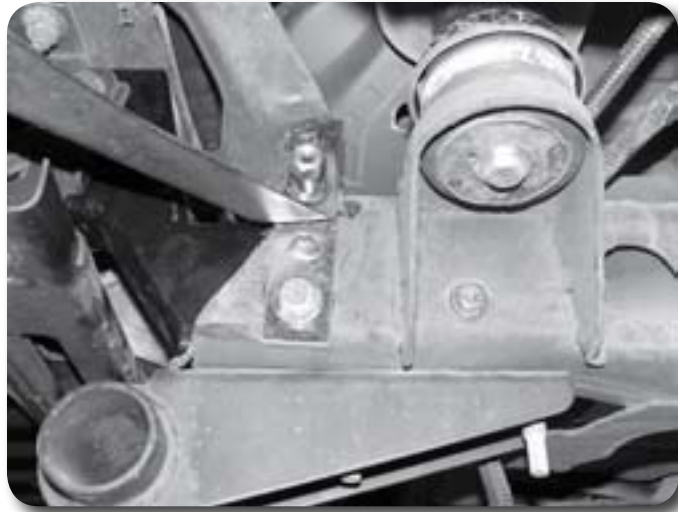

Figure 43
96. Install a $\frac{1}{2}$ " x 1-1/4" bolt, nut and $\frac{1}{2}$ " SAE in the top hole of the outside relocation bracket/factory outside bracket. Install a $\frac{9}{16}$ " x 1-3/4" bolts (Loctite on threads) and $\frac{9}{16}$ " SAE washer in the lower relocation bracket hole, through the frame and into the welded nut in the new bracket **Figure 43**. Leave all hardware loose.